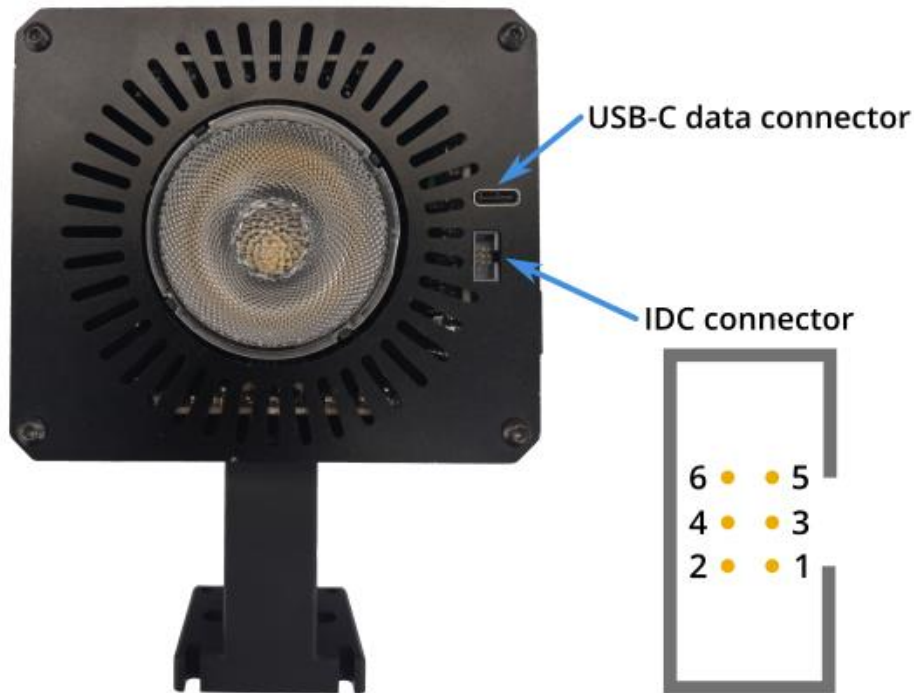

Figure 9.1. Connectivity ports of the solar simulator.
1. Plug the filter cable into the IDC connector (see Figure 9.1).
The Ossila Solar Simulator connects to a computer through a USB connection. The device has a USB-C port located on the underside of the lamp, as shown in **Figure 9.1**. A USB cable should be used to connect the solar simulator to the computer. Communication is only possible when the system is turned on.